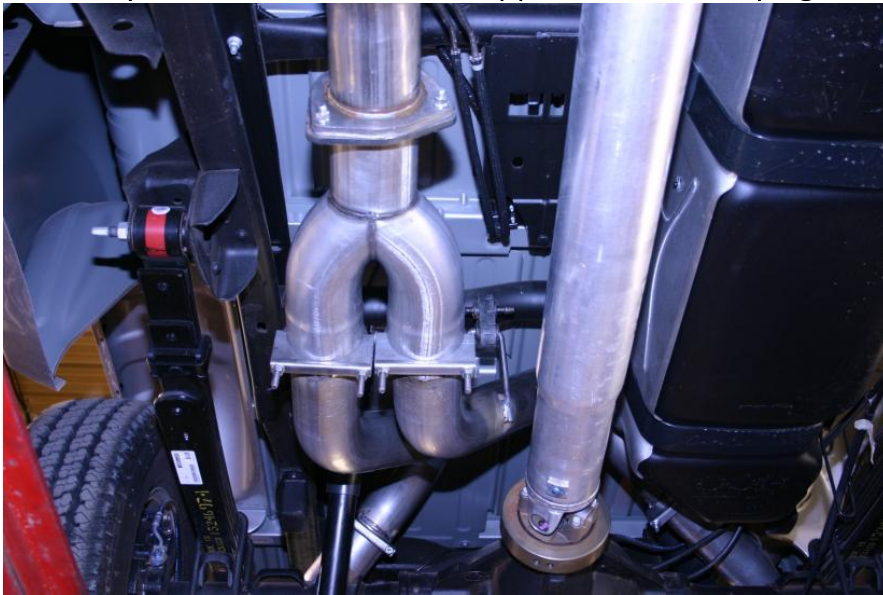

Figure 1
2. Bolt the "Y" pipe to the flange behind the particulate filter using the supplied bolts and reusing OE gasket, make sure that the outlets of the "Y" pipe are horizontal (see Figure1) . Install the right exhaust pipe into right outlet of "Y" pipe, place the right tail pipe onto the right exhaust pipe, make sure to install metal hanger into OE rubber hanger and clamp connections. Install the driver's side exhaust pipe into left outlet of "Y" pipe. Place the metal hanger into the OE rubber hanger.